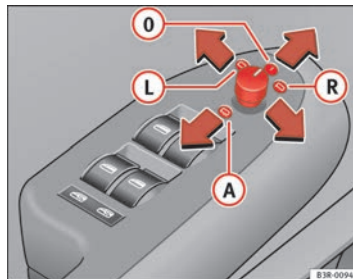

Fig. 104 Detailed view of the armrest: Adjuster knob
- Turn the adjuster knob to position ⇒ fig. 104 **L** (left exterior mirror) or position **R** (right exterior mirror).
When reverse gear is engaged, the mirror surface tilts slightly downwards, provided the mirror control is switched to the exterior mirror on the passenger side (knob in position **R** $\Rightarrow$ page 132, fig. 104). This provides a better view of the kerb when parking.